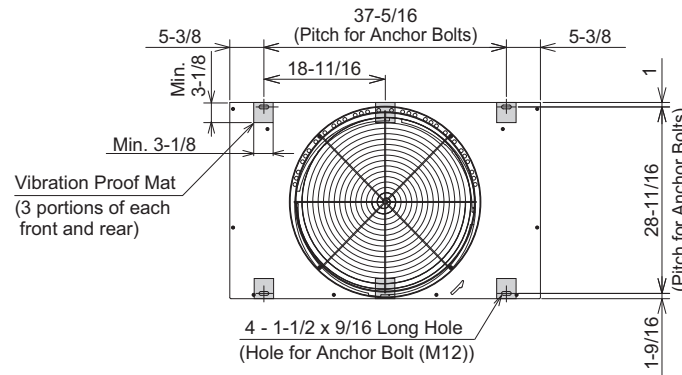

Figure 5.3 Positions of Anchor Bolts
- (3) Install the outdoor unit in the front-rear and right-left direction horizontally. (Use a level.) Verify that the gradient slope in all four directions (front, rear, right, and left) falls within 3/8 inch (10mm).
- (4) Provide a strong, level, and stable foundation so that:
- (5) When installing the outdoor unit, secure the unit with anchor bolts and field-supplied vibration-proof mats. Refer to Figure 5.3 for the location of holes for anchor bolts.